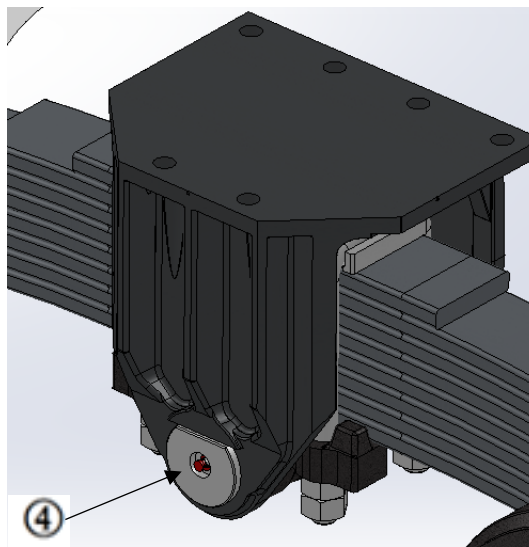

Figure 21 Showing the Central Pin Grease Point
4. Grease the two Central pins, shown as No.4 in Figure 21.